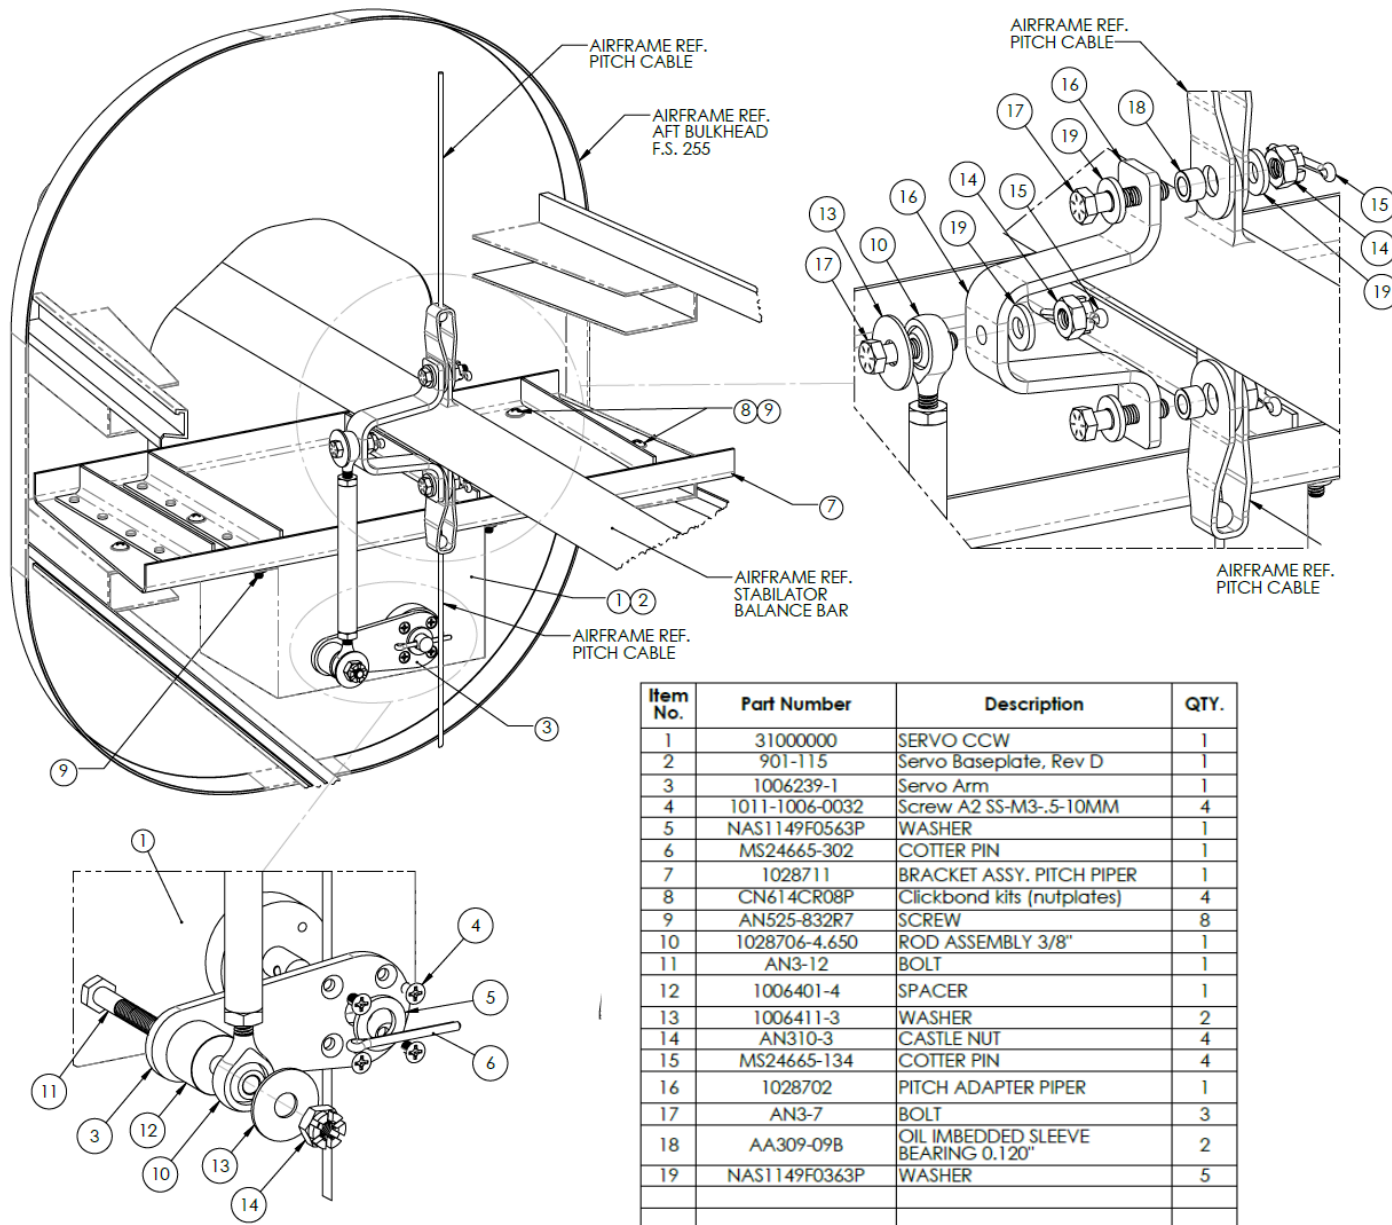

FIGURE 4-9 PITCH ASSEMBLY EXPLODED VIEW
- 4.2.3 Place the pitch servo bracket as far aft as possible on top of the (2) lower steel airframe gussets and clamp in place. Refer to Figure 4-9 and 4-10.
- 4.2.11 Position the pitch servo on the pitch servo bracket (mounting of the pitch servo to pitch bracket can be accomplished later if necessary). Refer to Figure 4-9 and 4-10.
- 4.2.14 Fasten the pitch adapter to the stabilator clevises. Refer to Figure 4-9, 4-10 and the applicable STC Group Illustrated Parts Catalog.
- 4.2.16 Attach the pitch servo push pull rod to the servo arm using the hardware supplied. Refer to Figure 4-9, 4-10 and applicable STC Group Illustrated Parts Catalog.
Refer to Figure 4-9, 4-10 and applicable STC Group Illustrated Parts Catalog.